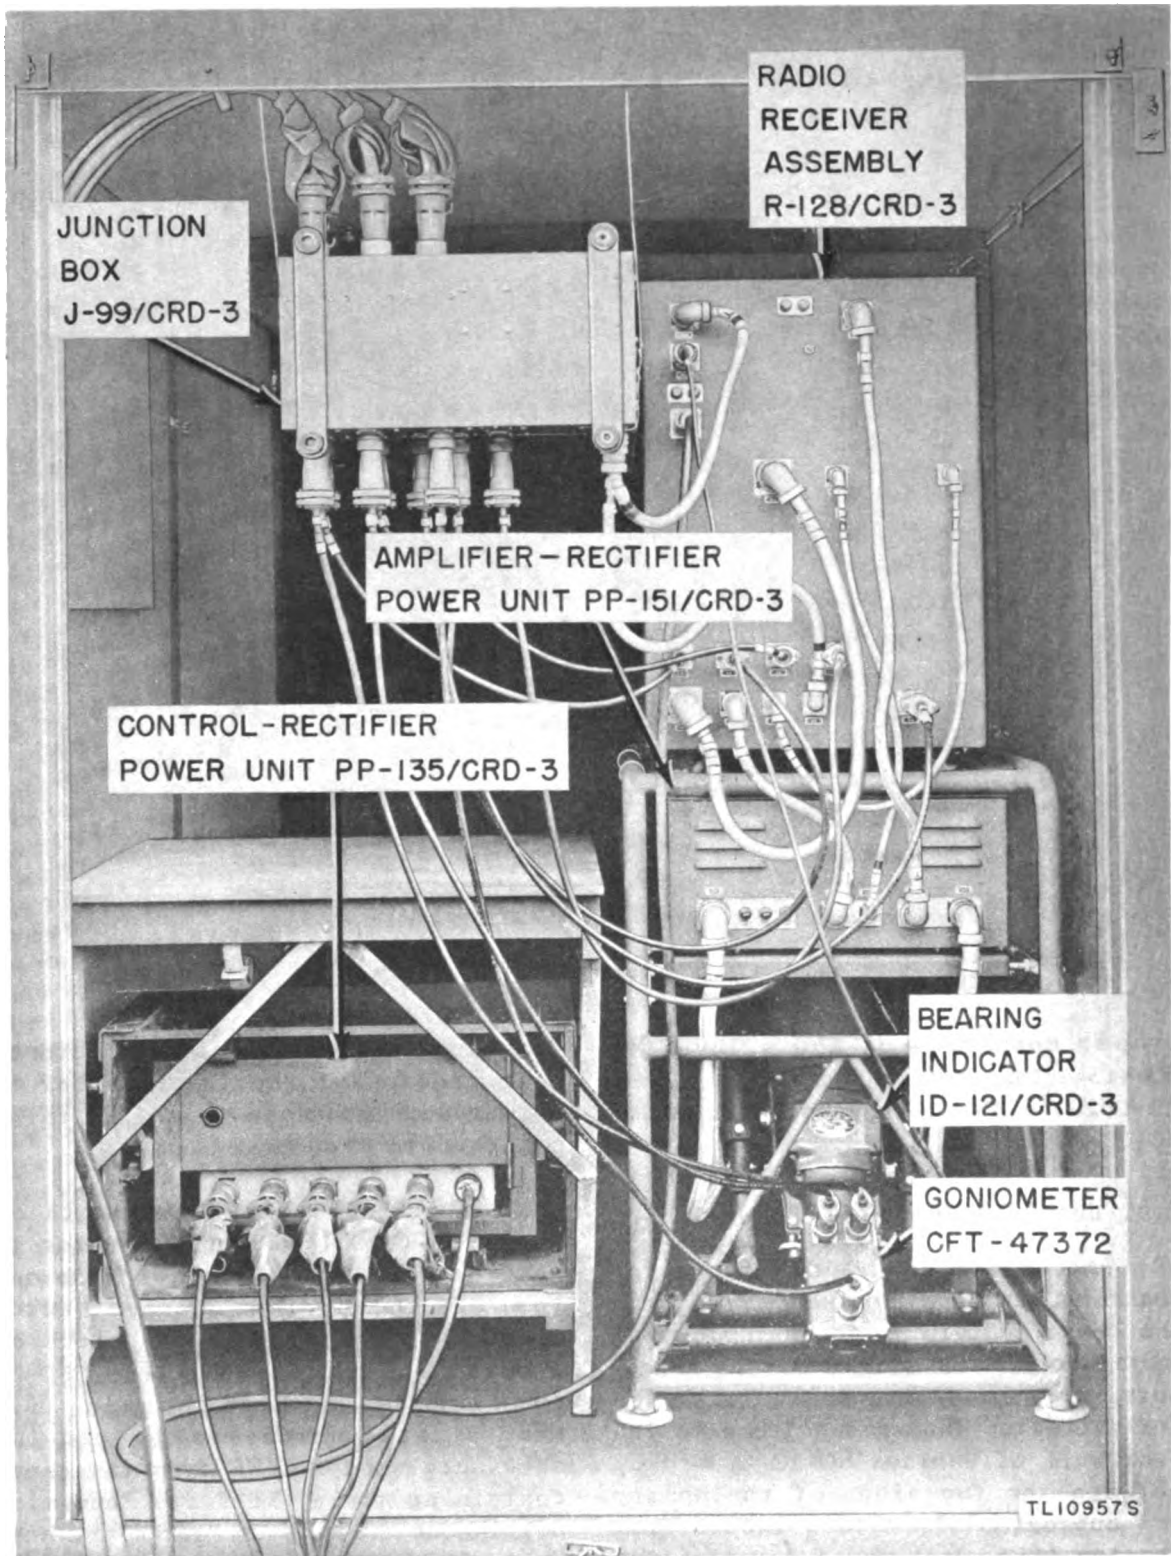

Figure 35. Radio Set AN/CRD-3 installed in Shelter HO-20-B, rear view.
(2) Connect all interconnecting cables between the radio receiver assembly, bearing indicator, Junction Box JB-99/CRD-3, and Amplifier-Rectifier Power Unit PP-151/CRD-3. Carefully study the cording diagram in figure 163 and then proceed to connect the cords. Figure 35 shows the interconnecting cables properly installed. These cords are located in Chests CY-317/CRD-3, CY-318/CRD-3, and CY-315/CRD-3.
(3) Connect the phase inverter power cords (CX-402/CRD-3) to the connectors on the rear panel of Control-Rectifier Power Unit PP-135/CRD-3, observing the color coding (fig. 35).